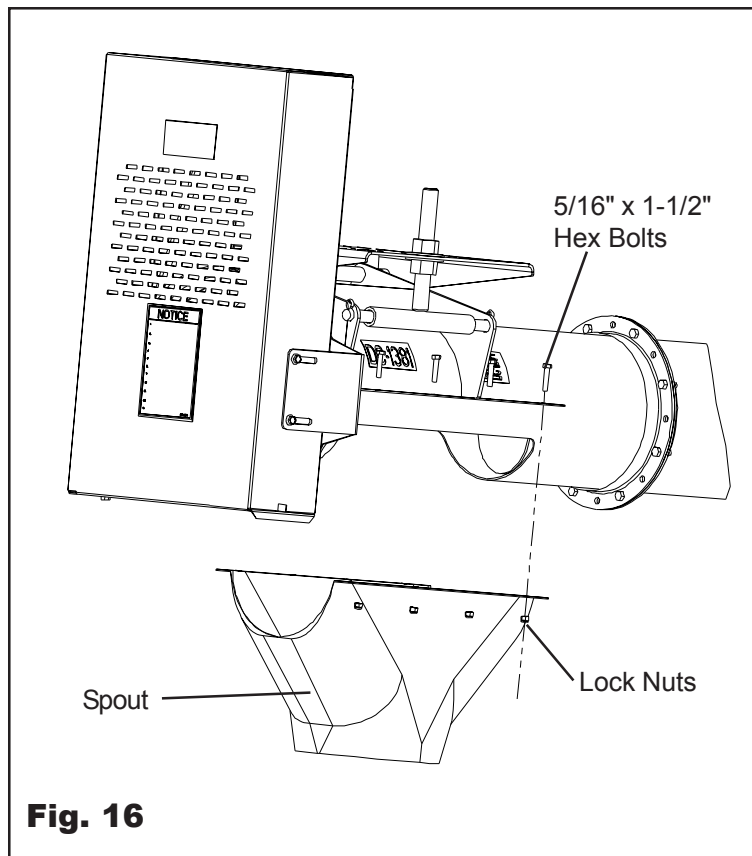

Fig. 16
- B. Attach spout using 5/16" – 18 x 1-1/2" hex-bolt and lock nut. (See Figure 16)